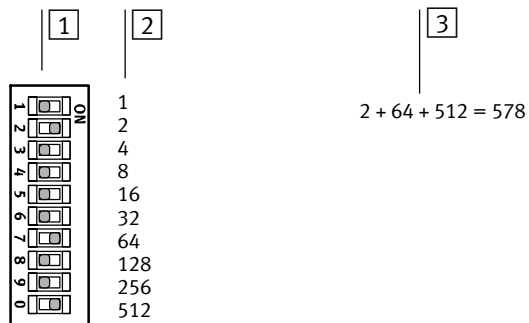

Fig. 2/2: 10x DIL switch for setting the PROFIsafe address – binary coded
3. Set PROFIsafe address on binary coded 10x DIL switch → Fig. 2/2.